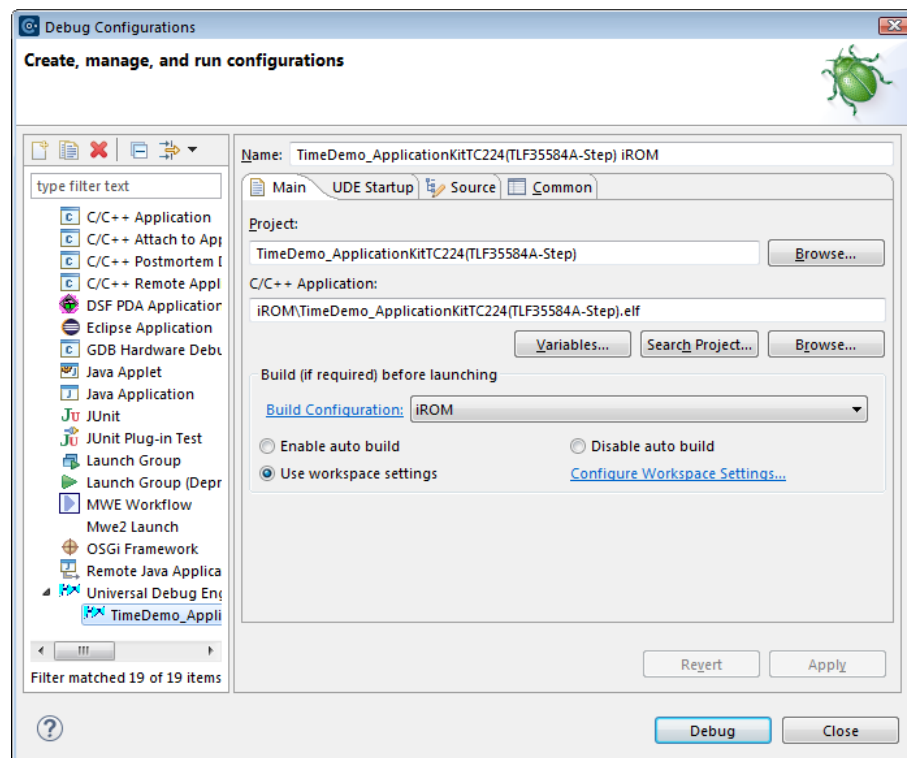

Figure 34 Create new debug launch configuration for Universal Debug Engine
3. Press the **New launch configuration** button to create a new debug launch configuration for Universal Debug Engine (Figure 34).